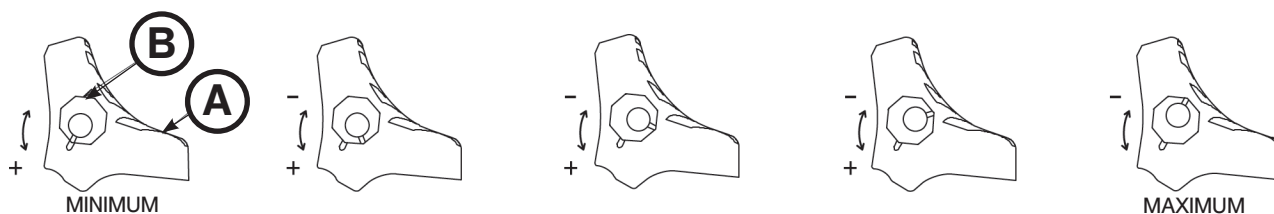

Figure 89: Wheel Locking Force Adjustment
1. Using the 5/32" hex wrench and 7/16" combination wrench or socket, remove the socket screw from the center of the lock pedal. The wheel lock is initially assembled with the pedal set at the minimum locking force. The marker on the pedal (A) is aligned with the marker on the octagonal sleeve (B) (Figure 89).
2. Remove the sleeve (B). Rotate the sleeve counterclockwise to increase the pedal locking force and clockwise to decrease the locking force. Insert the sleeve into the pedal (Figure 89).